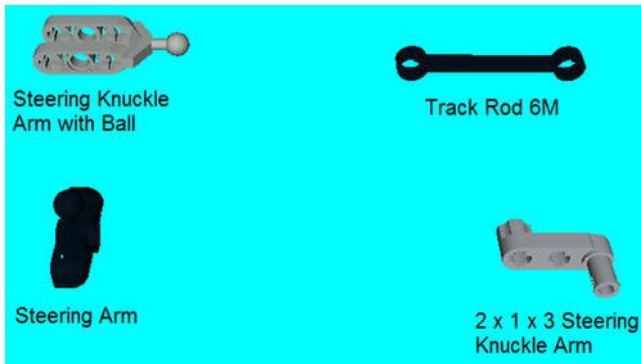

Figure 1-11. Technic pieces used for steering
I don't really know how to classify the steering pieces (see Figure 1-11), but they come into play in Chapter 3. You will need them if you want to build a car with some suspension.
- Link: A good example of a piece like this would be the track rod shown in Figure 1-11.
- Steering: These parts are shown in Figure 1-11.